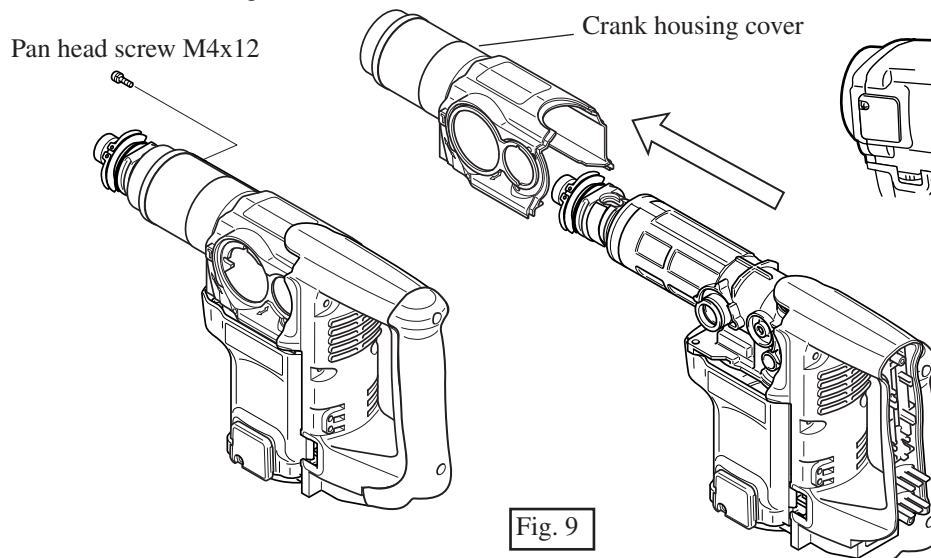

Fig. 9
(2) Disassemble crank housing cover by unscrewing pan head screw M4x12 as illustrated in Fig. 9.